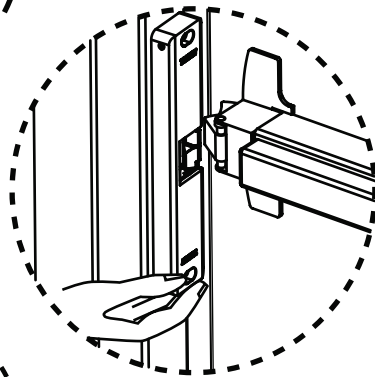

Figure 3
3. When you are confident with the position of the 4800F, mark two perpendicular edges of the 4800F on the frame See Figure 3